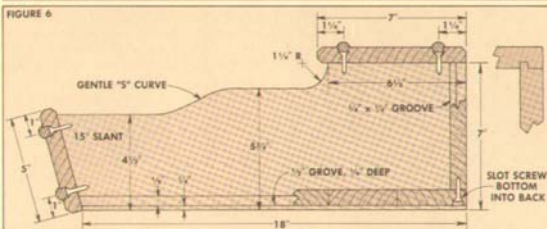

FIGURE 7
**THE FRONT.** Dry-clamp the sides to the bottom slab to get measurements for the front and back. The piece for the front is cut 1/2" longer than the outside to outside measurement of this assembly (so it extends 1/4" beyond each side). Then the relief (the curved section) on the top edge is bandsawn out, Fig. 7. And finally, three edges are chamfered.